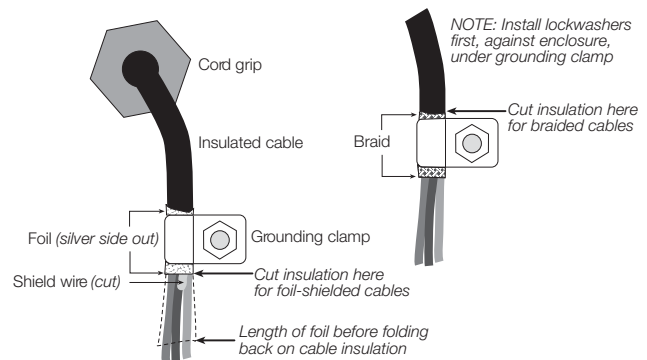

Figure 3-1. Grounding Clamp Attachment for Foil-Shielded and Braided Cabling
- For cables with foil shielding, strip insulation and foil from the cable half an inch (15 mm) past the grounding clamp (see Figure 3-1). Fold the foil shield back on the cable where the cable passes through the clamp. Ensure silver (conductive) side of foil is turned outward for contact with the grounding clamp.
- For cables with braided shielding, strip cable insulation and braided shield from a point just past the grounding clamp. Strip another half inch (15 mm) of insulation *only* to expose the braid where the cable passes through the clamp (see Figure 3-1).
- Route stripped cables through cord grips and clamps. Ensure shields contact grounding clamps as shown in Figure 3-1. Tighten grounding clamp nuts.